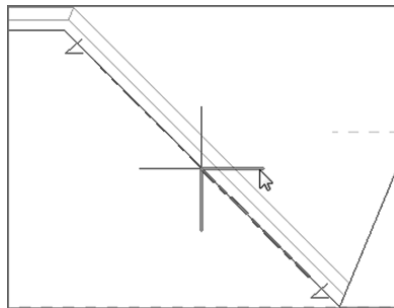

FIGURE 7.62: Adding a second slope arrow
4. Add a second slope arrow coming from the opposite side of the ridgeline, as shown in Figure 7.62.